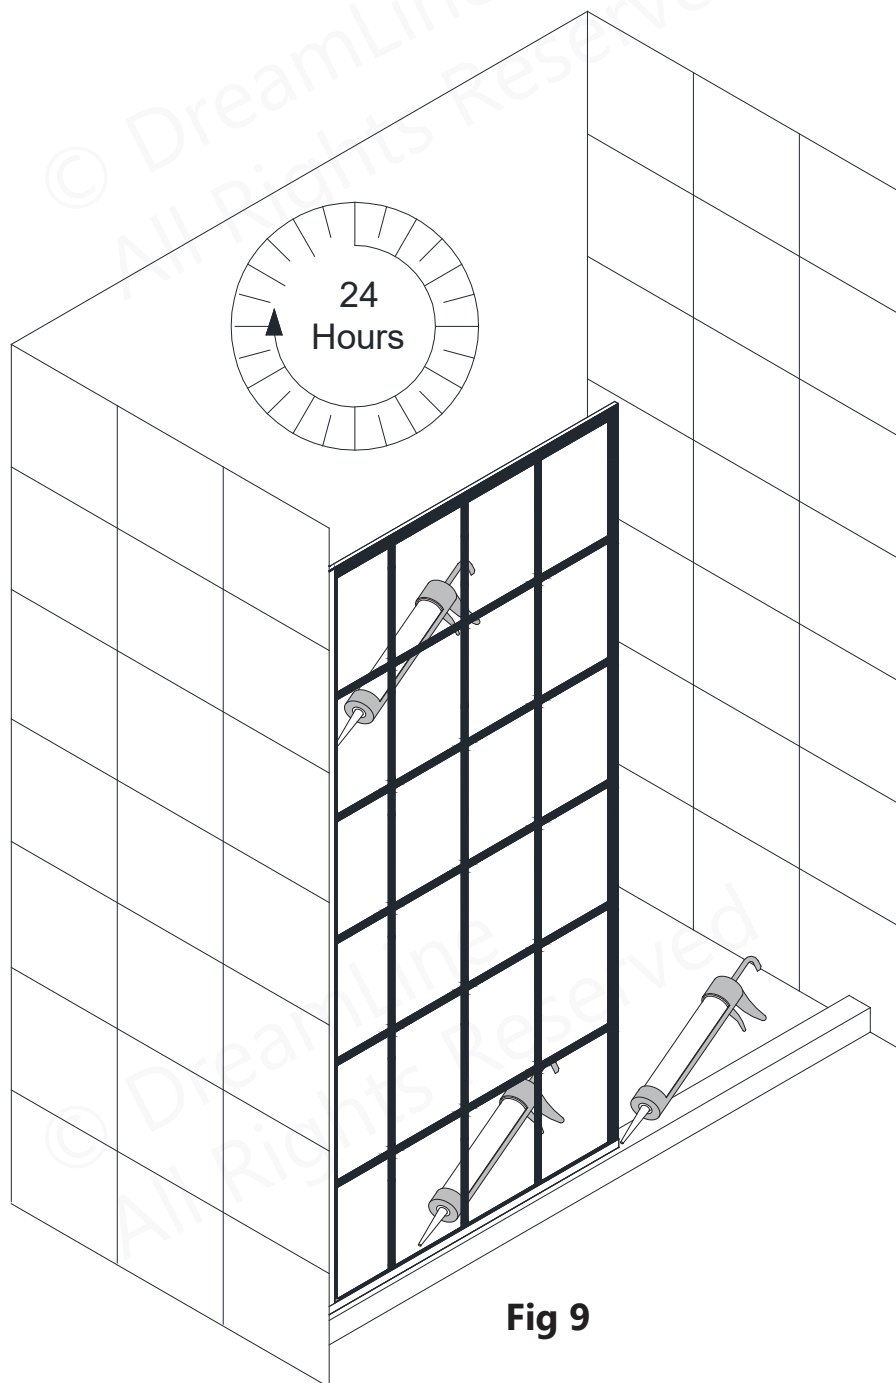

Fig 9
9. Apply a good quality mildew-resistant silicone along the U-Channel where it meets the wall and threshold from inside of the shower. You may also apply silicone along the outside if desired. **(Fig 9)**